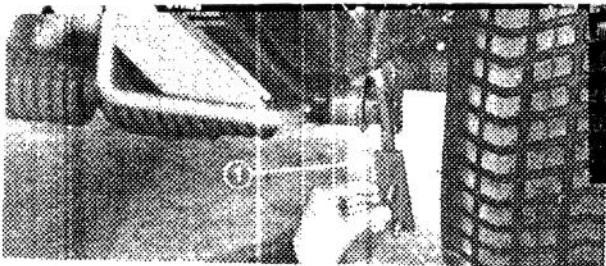

Figure 5
4. Position Belly Shield mounting hooks over hub of push arm mounting brackets (Fig. 5).